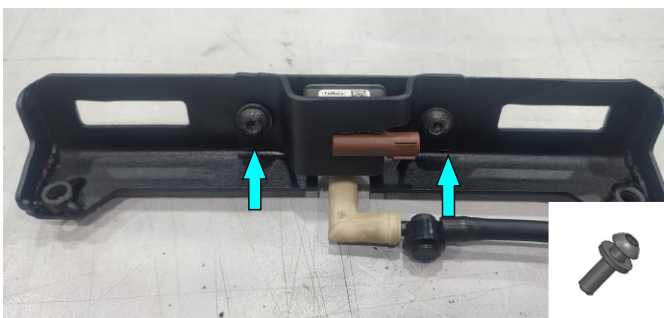

Fig.55
53. If your vehicle is fitted with front camera, install it to camera bracket (item 29) and secure it using camera clamp (item 28), screws M6x16, washers M6 (items A1, H1) (fig.55).